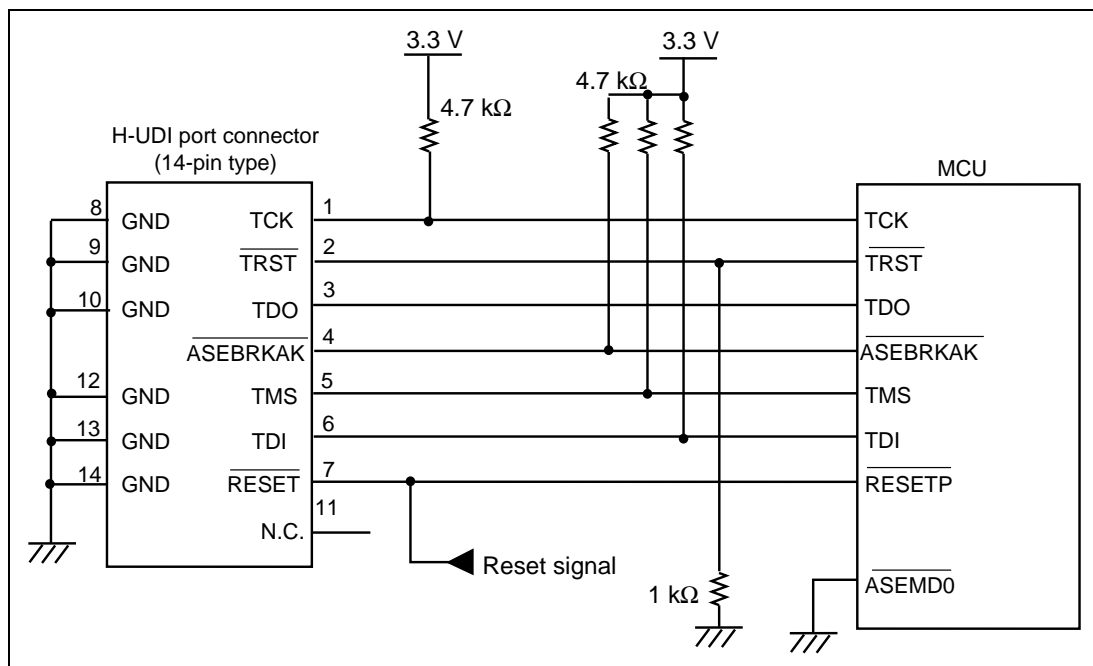

**Figure 4.1 Recommended Circuit for Connection between the H-UDI Port Connector and the MCU when Using the Emulator (36-Pin Type)**
Figure 4.1 shows a recommended circuit between the H-UDI port connector (36 pins) and the MCU.
- (1) When the emulator is used: /ASEMD = low (ASE mode)
- (2) When the emulator is not used: /ASEMD = high (normal mode)
6. The resistance values shown in figure 4.1 are recommended.